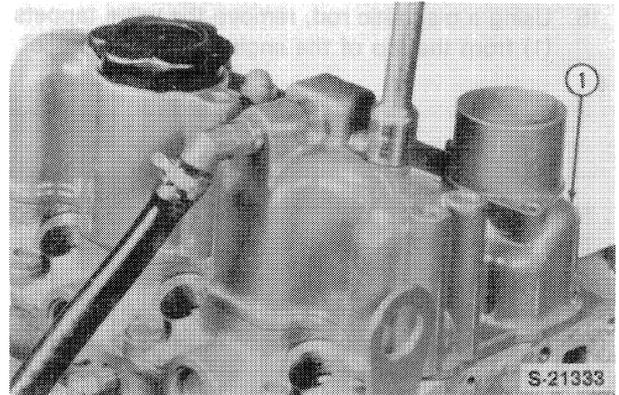

Figure 25
11. Remove the valve cover/intake manifold assembly (1), Figure 25.